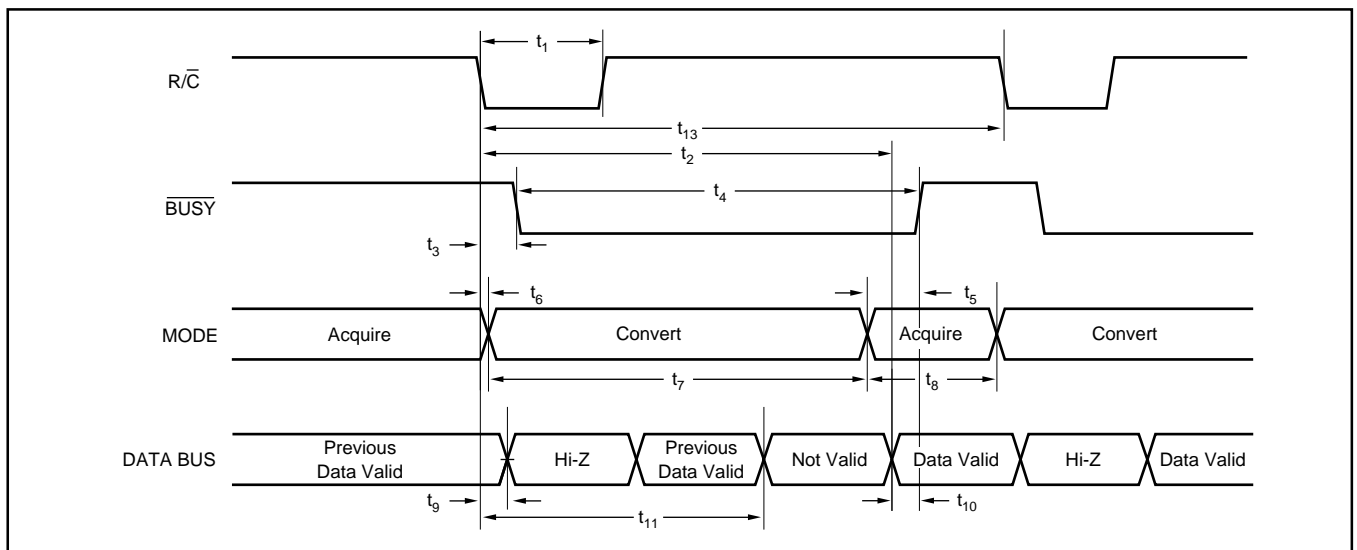

FIGURE 3. Conversion Timing with Outputs Enabled after Conversion (\overline{CS} Tied LOW).
Table II for a summary of \overline{CS} , $\overline{R/\overline{C}}$, and \overline{BUSY} states and Figures 3 through 5 for timing diagrams.
NOTE: (1) See Figures 3 and 4 for constraints on data valid from conversion "n-1".
After conversion 'n' is completed and the output registers have been updated, \overline{BUSY} (pin 26) will go HIGH. Valid data from conversion 'n' will be available on D15-D0 (pins 6-13 and 15-22). \overline{BUSY} going HIGH can be used to latch the data. Refer to Table IV and Figures 3 to 5 for timing specifications.
After conversion 'n' has been initiated, valid data from conversion 'n-1' can be read and will be valid up to $7\mu s$ after the start of conversion 'n'. Do not attempt to read data from $7\mu s$ after the start of conversion 'n' until \overline{BUSY} (pin 26) goes HIGH; this may result in reading invalid data. Refer to Table IV and Figures 3 to 5 for timing specifications.
The number of control lines can be reduced by tying \overline{CS} LOW while using $\overline{R/\overline{C}}$ to initiate conversions and activate the output mode of the converter. See Figure 3.